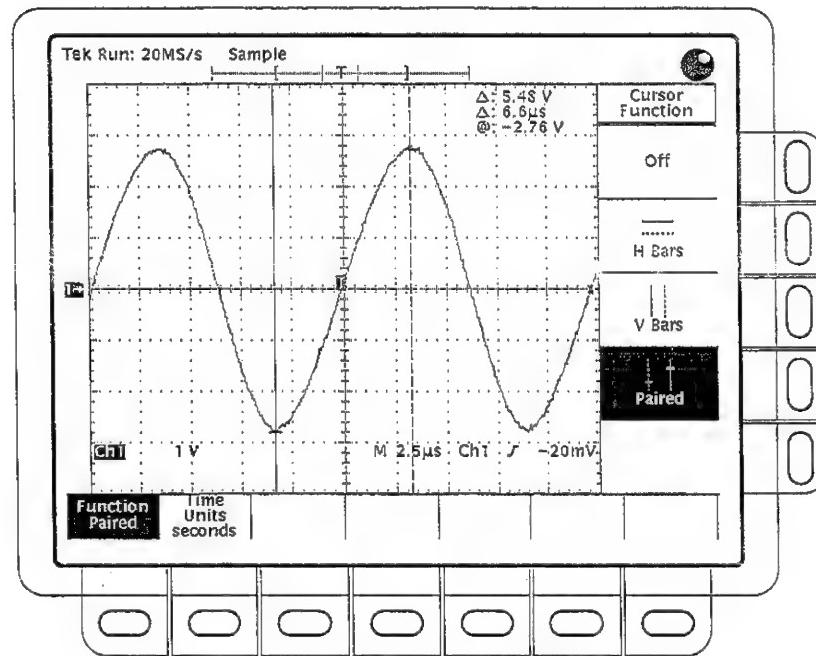

Figure 3–16: Paired cursor measurements of a sine wave
8. Read the measured value(s) at the upper right corner of the display next to the Δ sign(s). Figure 3–16 shows a sine wave with a $5.48 \text{ V}_{\text{p-p}}$ and a $13.2 \mu\text{s}$ period ($6.6 \mu\text{s} \times 2$).